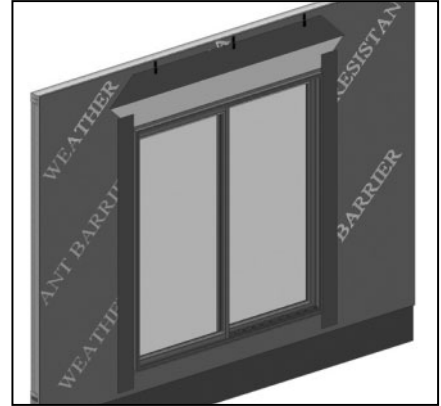

FIG. 27
- E) Tape the cut seams of the WRB. (Fig. 27)